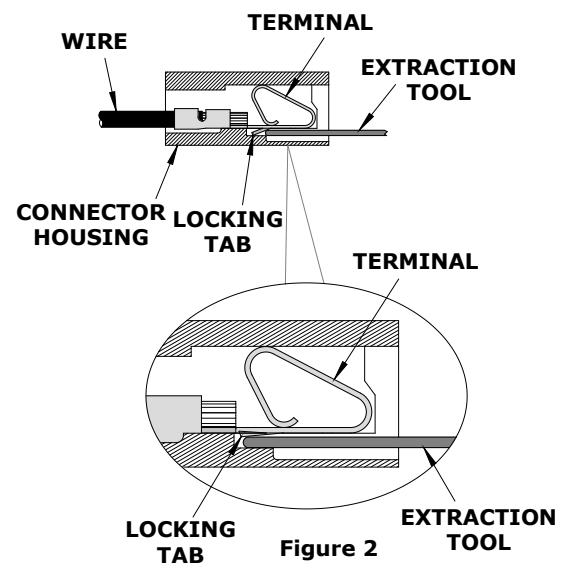

Figure 2
3. On housings without exposed locking tab windows, insert as shown in Figure 2 to depress the locking tab and pull the wire out.
If the terminal does not extract, reinsert the extraction tool as shown in Figure 2 and slightly rotate clockwise and counterclockwise several times to depress the locking tab. Pull on the wire to extract the terminal.